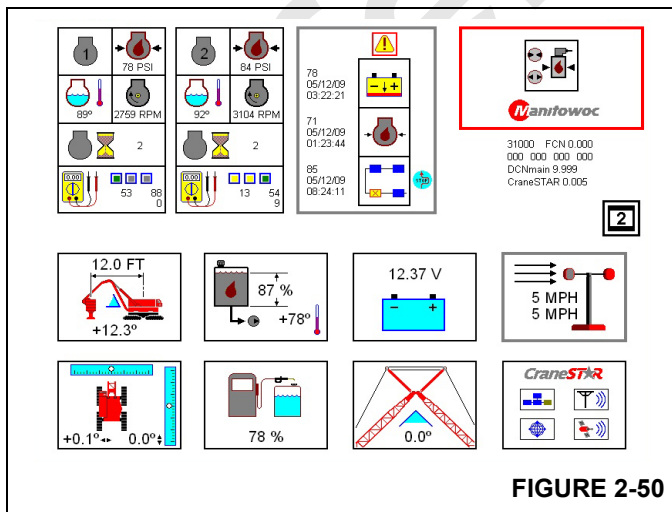

FIGURE 2-50
See Figure 2-50 for the following procedure.
3. Press  or  until the Pressure Test and Calibration Screen icon appears in the screen selection box (Figure 2-50).